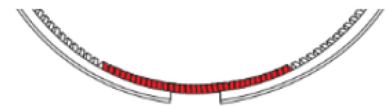

FIG. 4
- Many coil expander springs have a variable pitch design that has an area with reduced spacing between the wire of the expander coils. This area needs to be centered at the gap of the ring body. \*FIG 4. End gap specification is .010-.020"